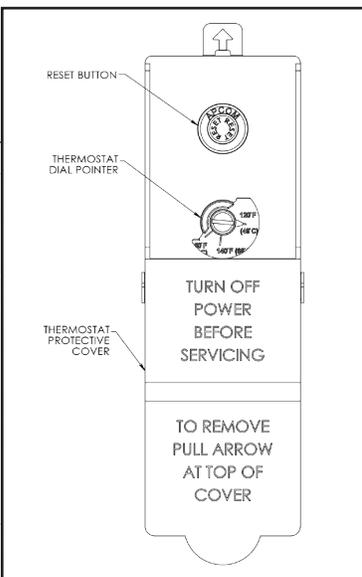

Figure 6 - Detail of Step #4
**IF YOU NEED TO ADJUST THERMOSTAT(S) OR RESET THE ECO (RED RESET BUTTON)**
**STEP #4** - See Figure 6